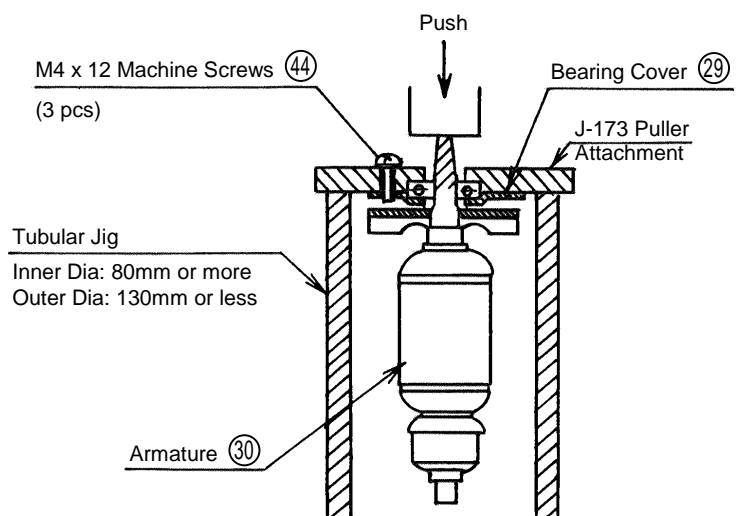

Fig. 5
First, remove the C-Type Retaining Ring (27) from the Armature (30). Then, as illustrated in Fig.5, mount the Armature on a J-173 Puller Attachment (special repair tool, Code No. 970954), and secure it in position with the three M4 x 12 Machine Screws (44). Next, support the J-173 Puller Attachment with an appropriate tubular jig (inner diameter of 80 mm or more, outer diameter of 130 mm or less), and push down on the Pinion end of the Armature with a hand press to loosen and remove the Armature (30) from the Bearing Cover (29).